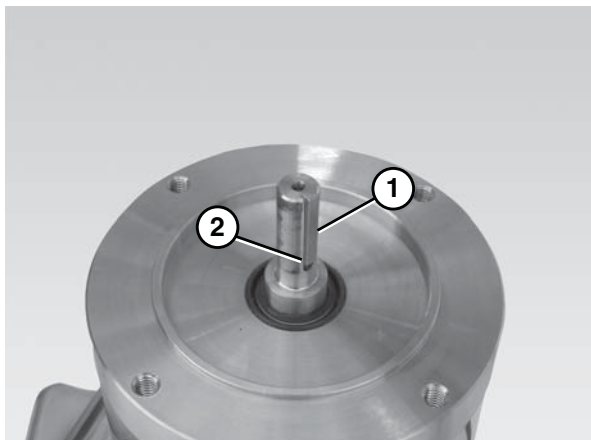

Figure 33
7. Insert the motor output shaft key (Figure 33, item 1) into the motor output shaft keyway (Figure 33, item 2).
Ensure the gearmotor output shaft key (Figure 33, item 1) is situated properly before attaching the motor to the gear reducer.